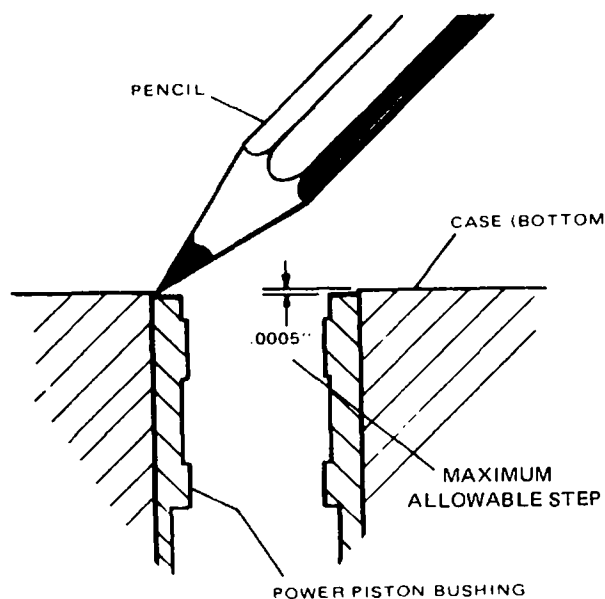

Figure 11-9. Governor Bushing Shift Check
(3) Check for mismatching of serrations or other gear tooth damage.
(4) Check idler gear and stud for wear in mating parts.
(5) Check power cylinder bushing for wear. If worn excessively, replace case. It is absolutely essential to governor operation that power piston moves freely in its cylinder.
(6) Check toes of flyweights for flat spots. Replace entire ballhead assembly if any of its parts appear to be defective.
(7) Check cover (63) for damage or bent surfaces. If damaged, replace entire ballhead assembly.
(8) Check all pivot pin holes and pivot pins for excessive wear.
(9) Check that pilot valve plunger has square edges on control lands.
(10) Check all bushings and bearings for wear.
(11) Check for lower race of thrust bearing (61) for wear pockets caused by flyweights.
(12) The buffer piston must slide freely in the buffer cylinder. Also check that the grooves around the buffer piston are clean. Grit and dirt in the system may "freeze" the buffer piston.
(13) With the governor at room temperature, inspect the power piston and ballhead bushings. A practical check for disallowable bushing shift is to draw a sharp lead pencil across the joint between the bushing and the case bottom (refer to figure 11-9). If a step is felt, the case should be discarded. In no instance can a case be used if bushing shift is greater than 0.0005 inch (0.0127 mm). The case may be reused if the shift is less than 0.0005 (0.0127 mm), but do not attempt to press the bushing back into position.